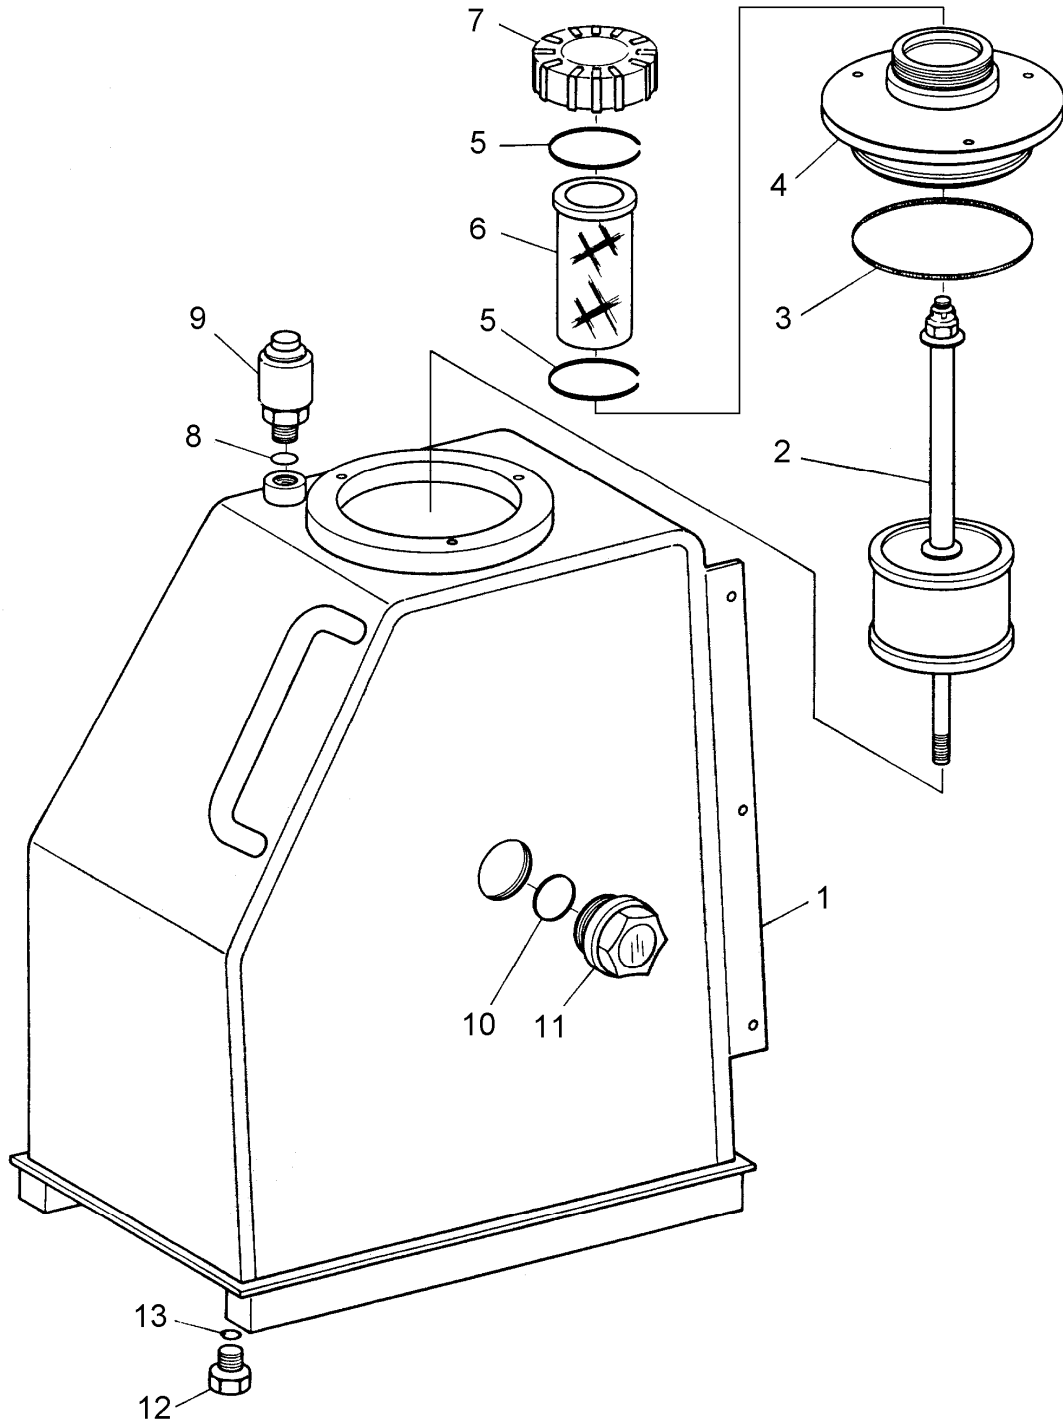

Fig. 10E.1. Exploded View of Hydraulic Reservoir
1. DESCRIPTION (Refer to Fig. 10E.1)